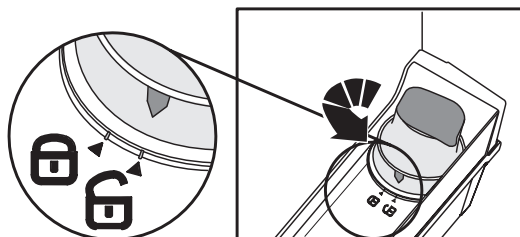

Fig 3
- Unlock the whole filter turning it anticlockwise (**Fig 3**)
- Remove the old carbon cartridge and insert the new one **after activated**, with current month faced in the window) (You can follow the procedure described in Carbon filter activation and Filter installation - **Fig. 3,4,5,6,7,8**).